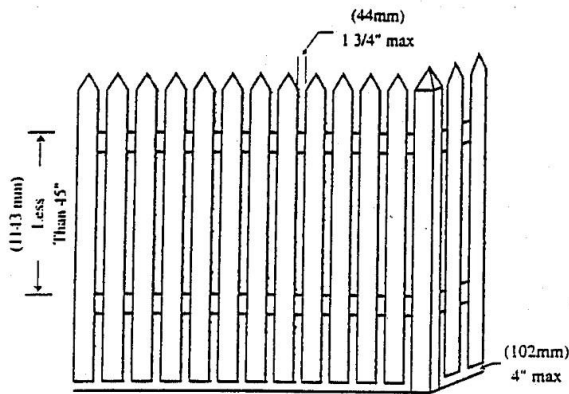

FIG. 1 IF HORIZONTAL MEMBERS ARE LESS THAN 45" (1143mm) APART, THE SPACE BETWEEN VERTICAL MEMBERS SHALL NOT EXCEED 1-3/4" (44mm).
- (1) Horizontal members must be located on the hazard side of the fence if the distance between the tops of the horizontal members is less than 45 inches. Space between vertical members shall not exceed 1  $\frac{3}{4}$  inches. (See Figure 1.)